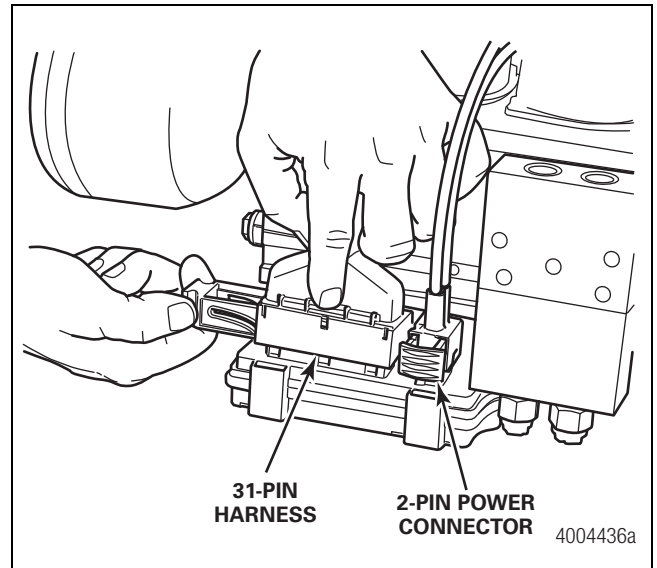

Figure 4.19
5. Open the latches on the two-pin power connector and the 31-pin harness attached to the ECU. After the latch is released, remove the connectors from the ECU. Figure 4.19.